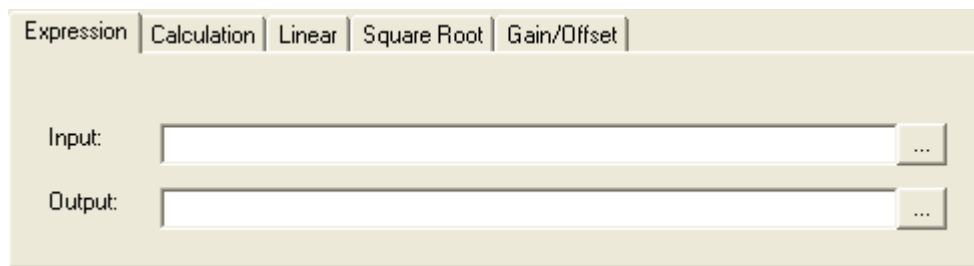

Figure 44 - Insert New Alias Window Scaling Options
By selecting the **Scaling >>** button, the **Insert New Alias** window can be expanded to display **Scaling Options** (Figure 44). The available forms of scaling include: Simple text **Expressions**, **Calculation**, **Linear**, **Square Root**, and **Gain/Offset**.
The **Scaling Options** are displayed at the bottom of the **Insert New Alias** window (Figure 44).
5. Click on the **Scaling** button to enable scaling for the alias. The **Scaling Options** are displayed at the bottom of the **Insert New Alias** window (Figure 44) or the **Edit Alias** window.